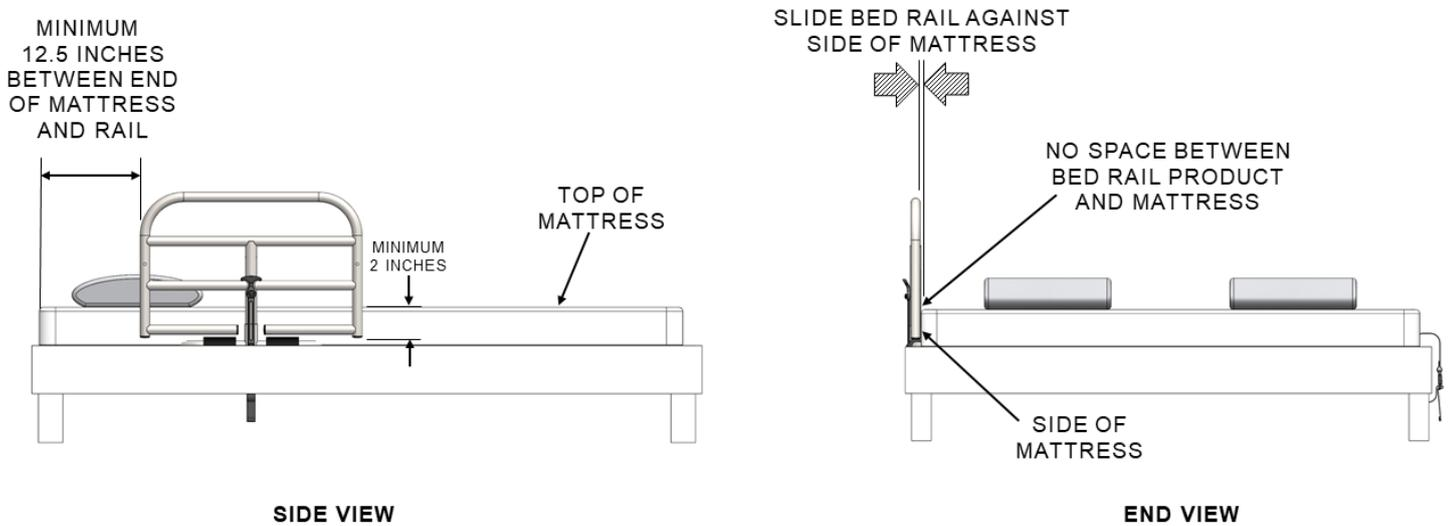

FIGURE 6
7. **WARNING:** For safety purposes, it is important that ALL conditions shown below are followed. The bottom horizontal bar on the bed rail must be at least 2 inches below the top surface of the mattress. No space should exist between bed rail and side of mattress. Safety strap should be securely buckled around bed frame. Tighten strap to secure BED RAIL ASSEMBLY against the side of the mattress as seen in Figure 6.